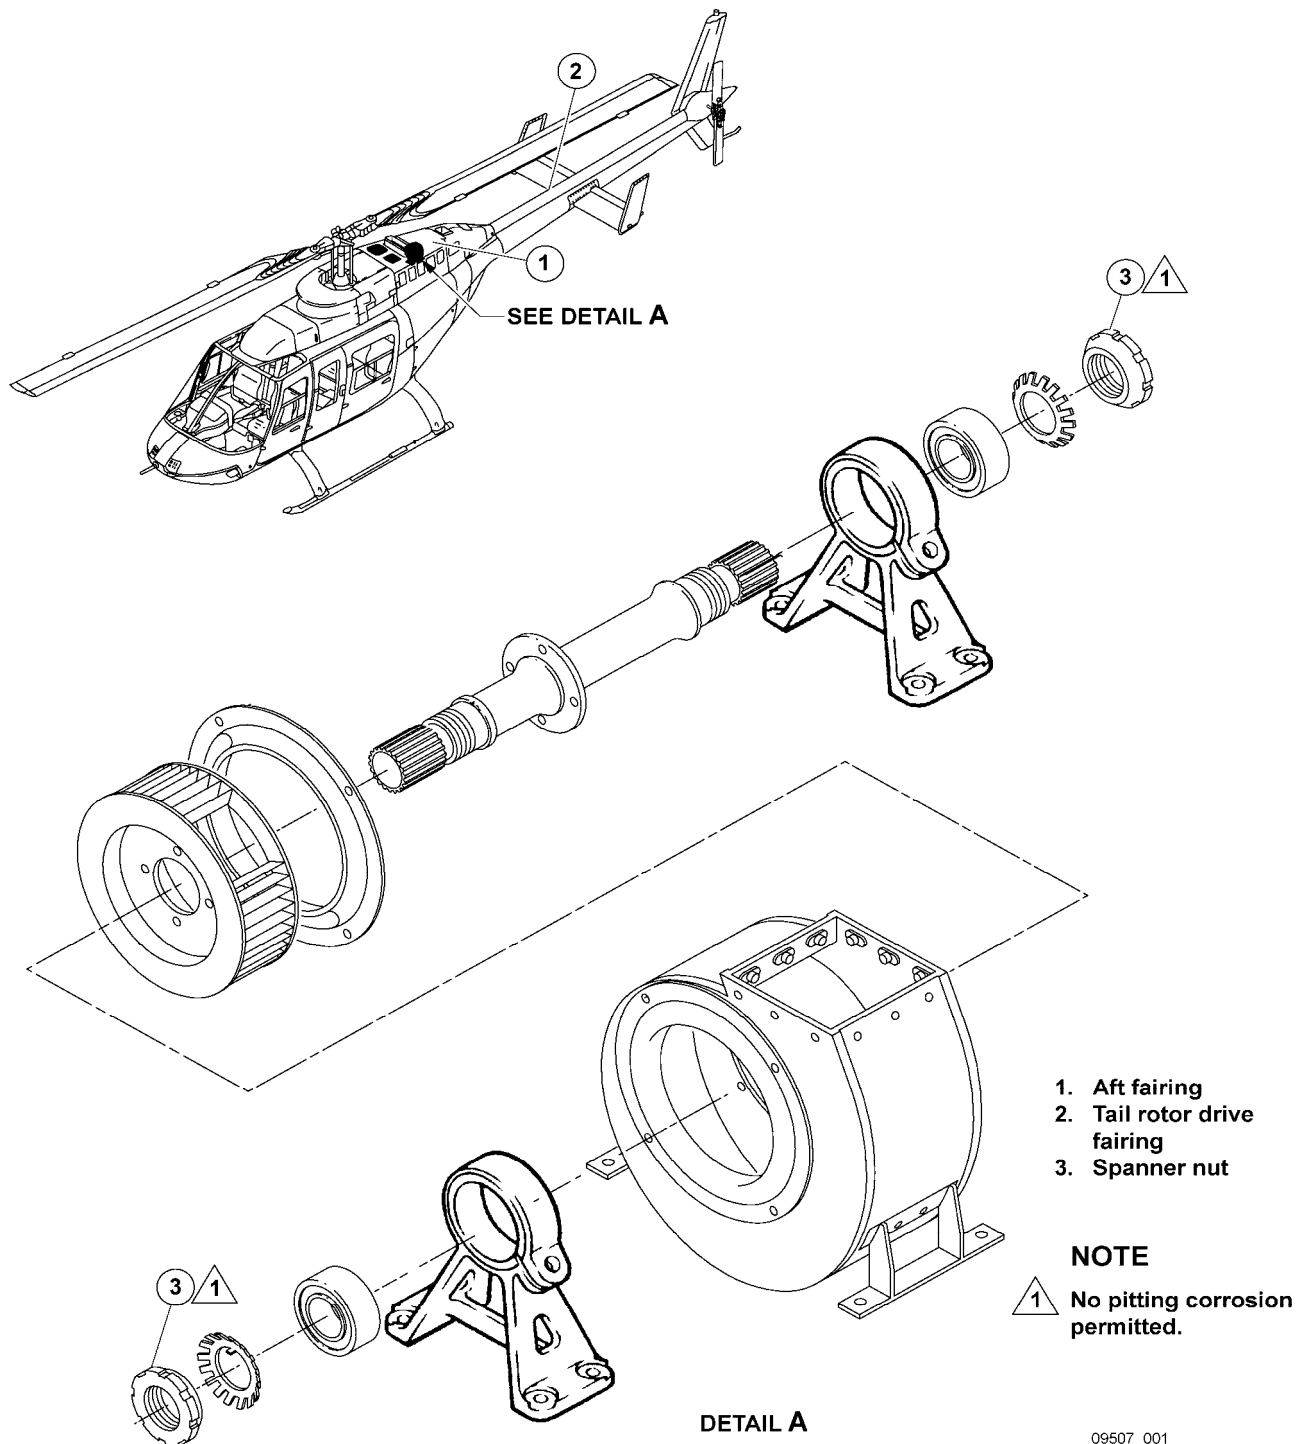

Figure 1. Oil cooler blower assembly
1. Gain access to oil cooler blower shaft assembly (Refer to Detail A, Fig 1).